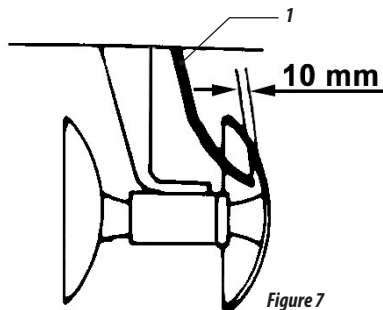

Figure 7
- 14-Fix the wipers item 1, Figure 7, on the frames and leave a gap of 10mm between the wiper and the disc.